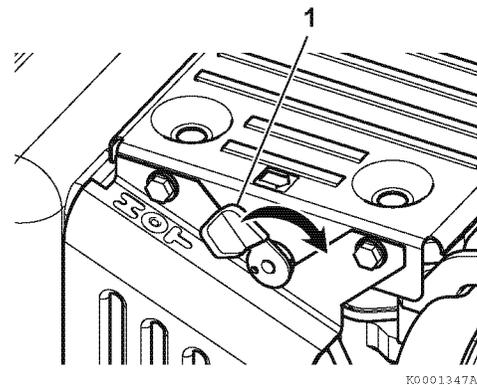

Figure 4
4. Push the decompression lever (1, **Figure 4**) down and release it. The decompression lever will automatically return to the original position when the engine starts.